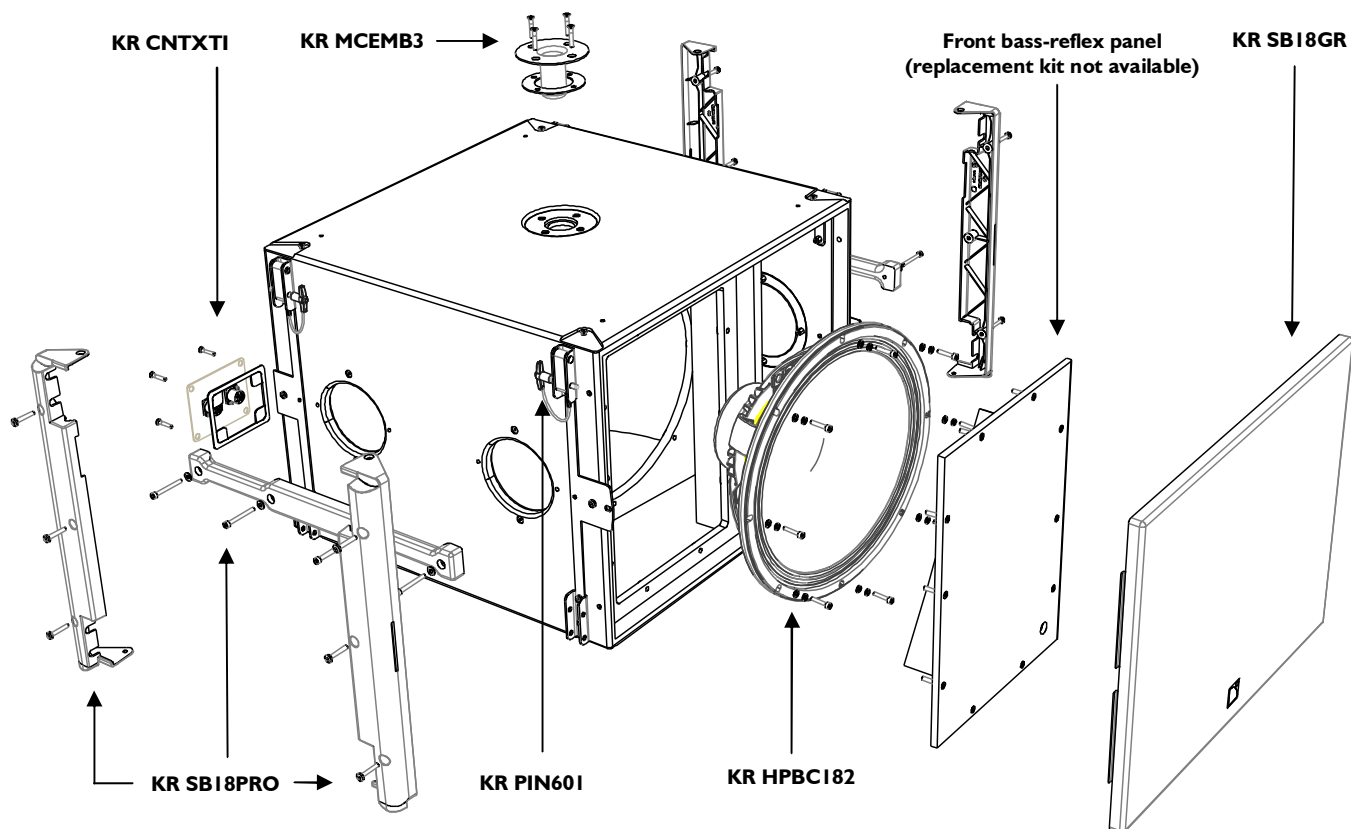

Figure 13: SB18 exploded view
The replacement kits (KR) available for the customer are shown in Figure 13 and listed in Table 5 with reference to the corresponding service procedures. Table 6 is a list of all tools and material needed for SB18 service (not provided).